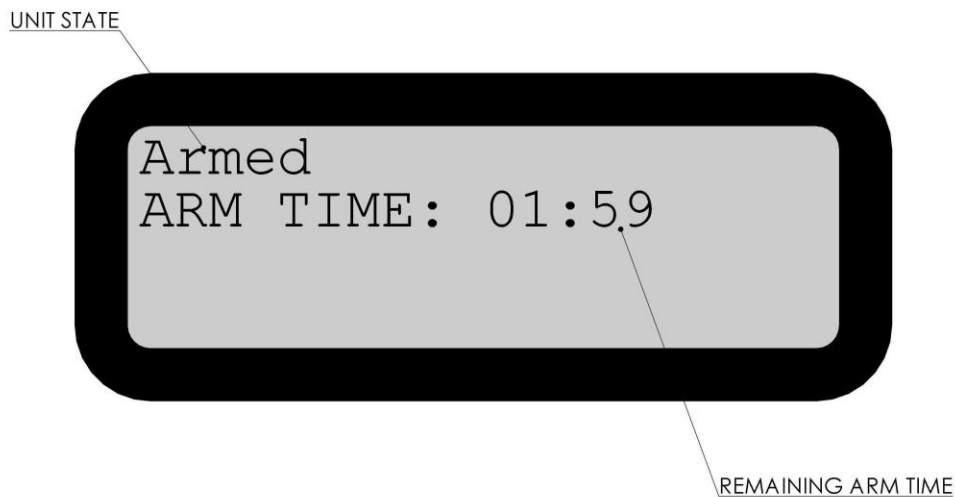

Figure 2-12 Remote Unit Shock Tube Initiator Armed Screen
2.10.13. Figure 2-12 shows the screen that is displayed on the Remote Unit when its Shock Tube Initiator circuit is armed. The UNIT STATE will display 'Armed' and the red ARMED light on the front panel will also turn on. The REMAINING ARM TIME will be displayed as in minutes : seconds
3.5.13. Figure 2-12. The Remote Units' ARMED lights should be on.